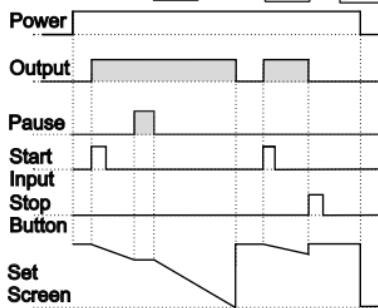

Figure 4.1
4.1.1 If Downcount `dEct`=1 and `outF` is `0-n` the control diagram is shown in Figure 4.1